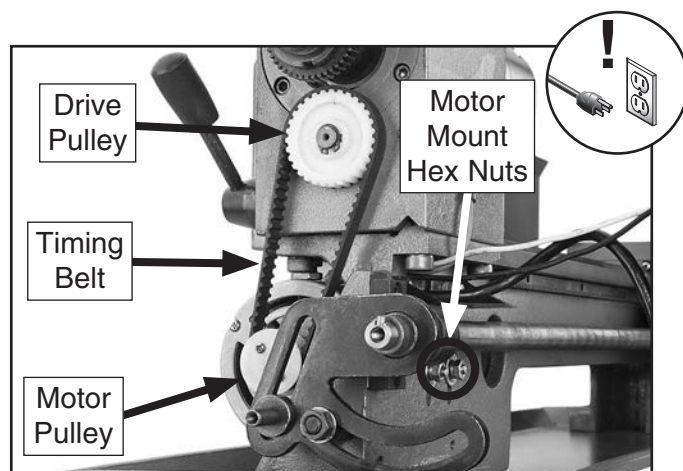

Figure 89. Timing belt and motor mount hex nuts (components removed for clarity).
The timing belt transfers power from the motor to the drive pulley (see **Figure 89**).
3. Verify belt is centered on drive pulley (see **Figure 89**) by hand-rotating chuck. The belt should be seated so it does not contact head-stock or hang out at end of pulley.
—If belt is not centered, loosen motor mount hex nuts (see **Figure 89**), re-adjust motor position and re-tension belt.